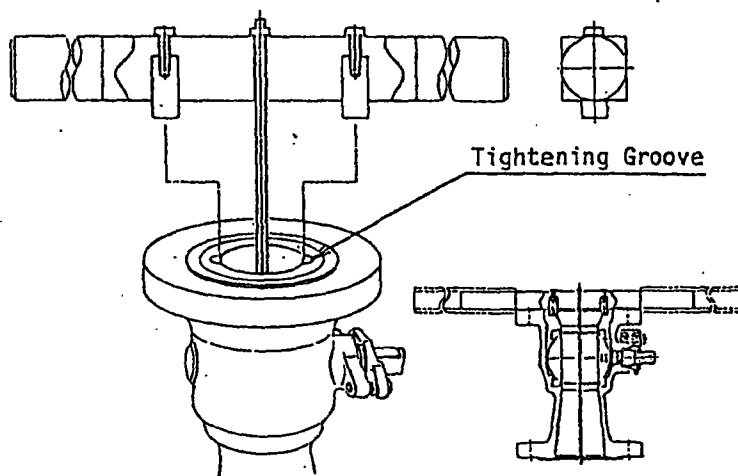

Fig. 5
- 6.2.4 Prepare a tool sized properly to match the tightening groove (Fig.5) of the body insert for unthreading it from the valve body.